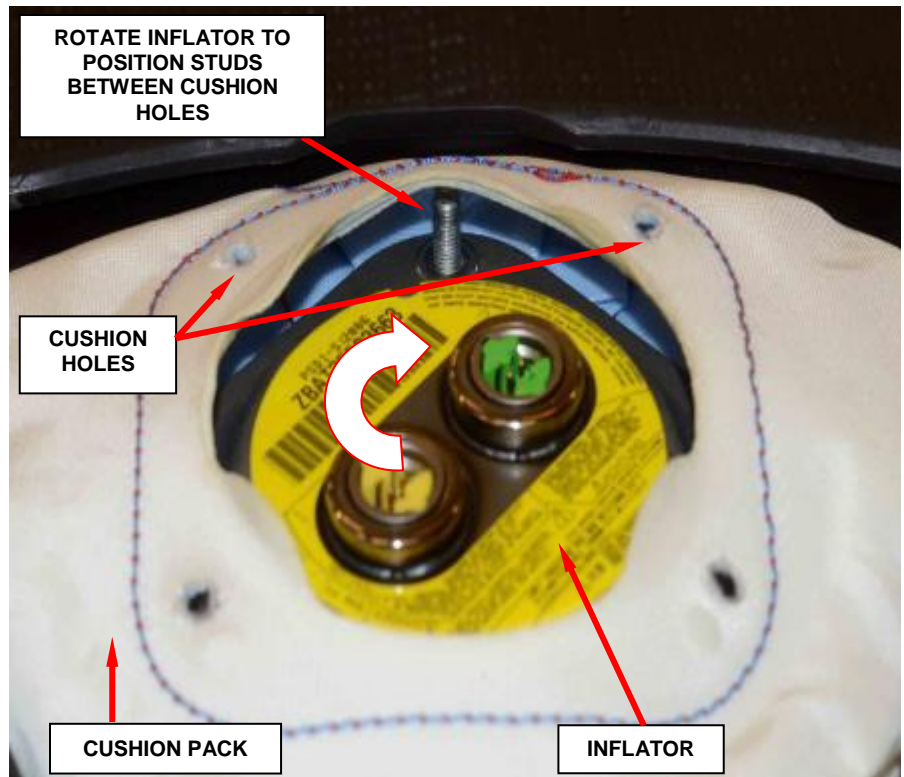

Figure 9 – Rotate Inflator
d. While the inflator is still in the cushion pack and out of the cushion holes, rotate the inflator slightly (15 -45 degrees) (Figure 9).